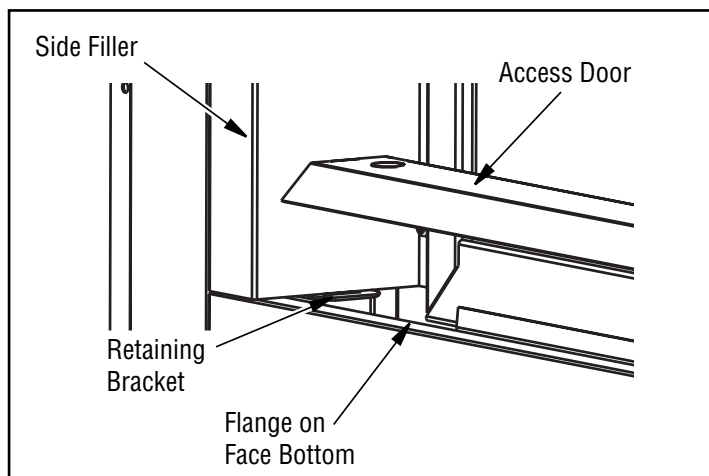

Figure 43 - Access Door for See-Thru Applications
1. Place access door into rectangular opening in front of the glass door with the slanted side facing forward. The slanted surface will slide underneath the flange of the bottom face. Insert tabs on side of access door into slots on retaining brackets (See **Figure 43**).